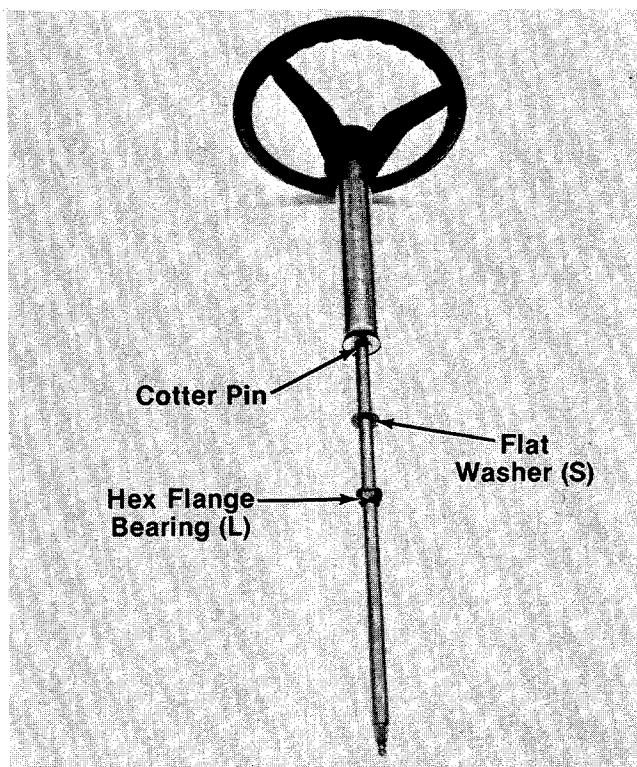

FIGURE 7.—Style A Only
7. **Style A only**—Slip flat washer (S) (1¼" diameter) on the **steering shaft** immediately below the cotter pin. Place one plastic **hex flange bearing (L)**, flat side up, below the washer. See figure 7.